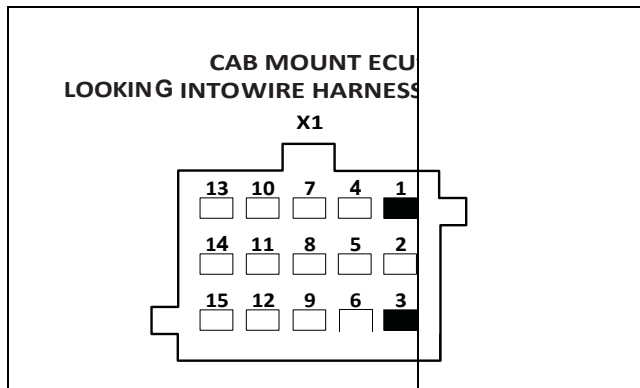
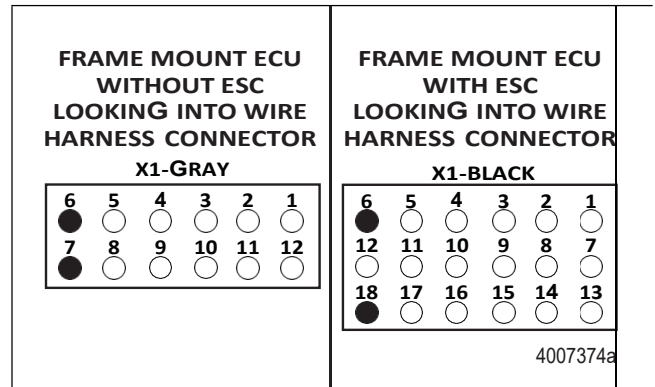

Figure 3.37
Figure 3.38
- If the ABS ECU is the only ECU on the J1939 datalink which cannot communicate, then take measurements at the ABS ECU connector. If other ECUs are not communicating, then troubleshoot the vehicle datalink backbone and contact the vehicle OEM for technical assistance if required. For resistance measurements, the vehicle battery must be disconnected and the ignition must be Off. Figure 3.37 and Figure 3.38.